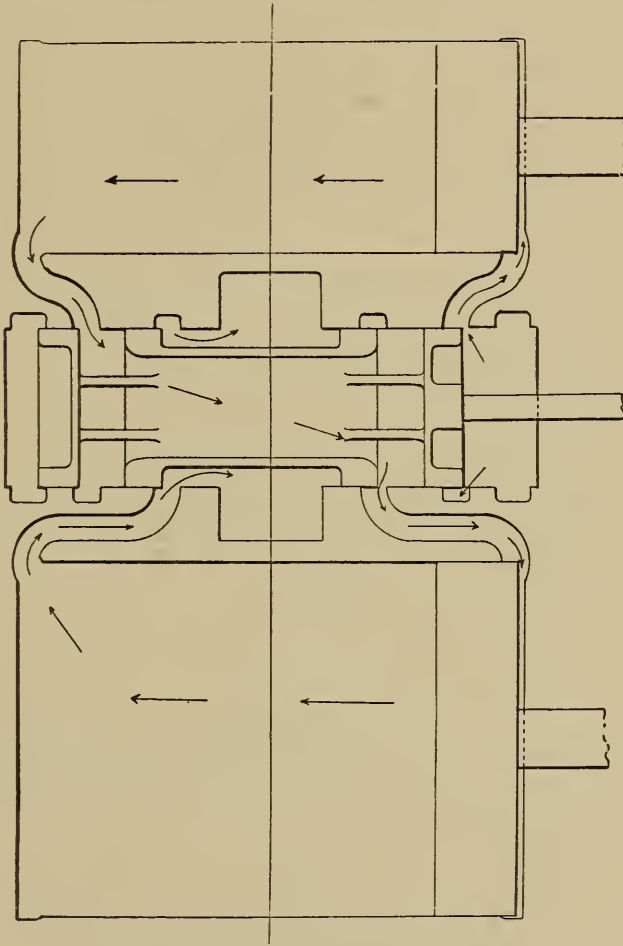
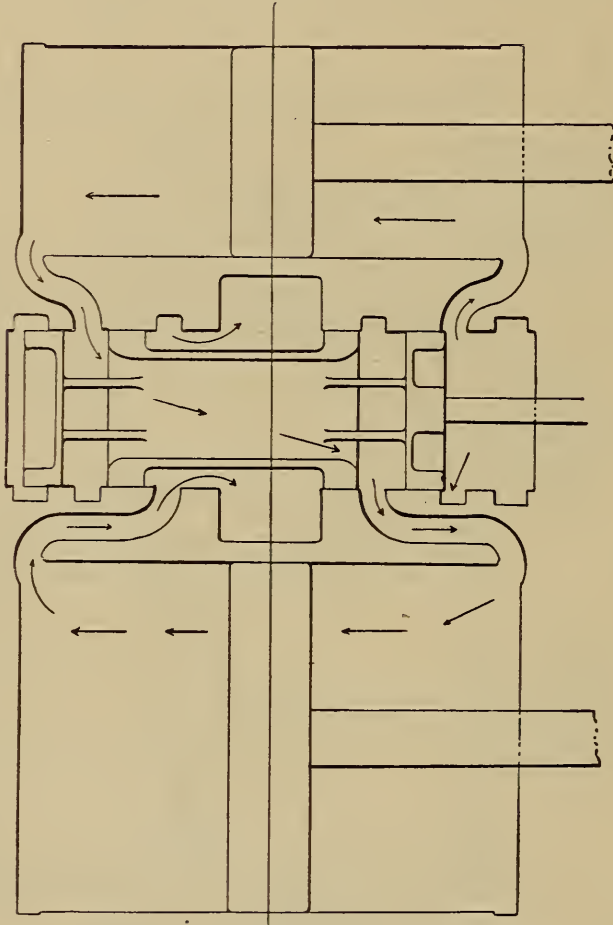
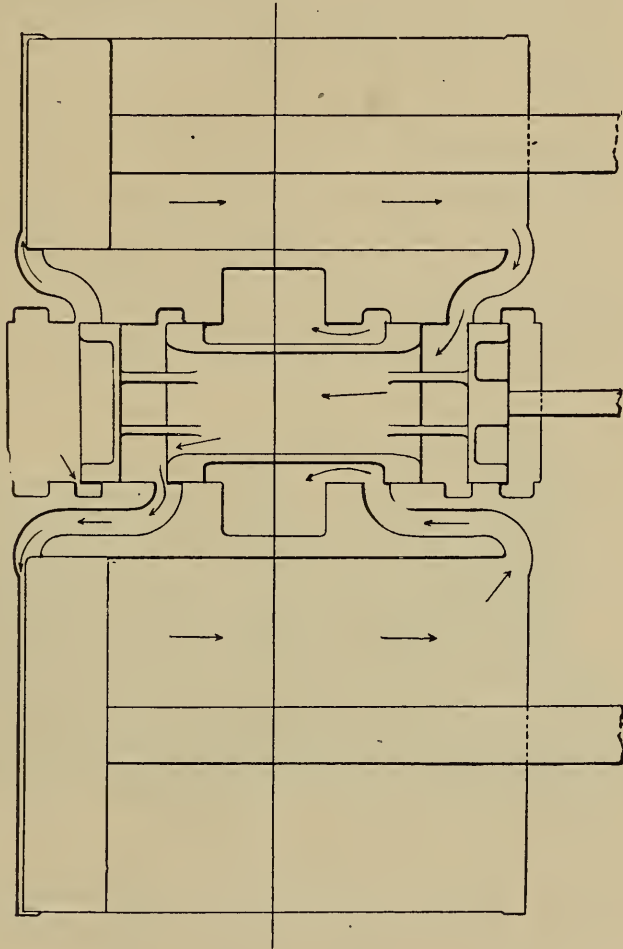

Fig. 170. Vauclain Compound.
Fig. 171. Vaucain Compound.
Fig. 172. Vaclain Compound.
A. Both pistons play together in the same direction at the same time; their position and the relative position of the valve with reference to them being shown in figures 170, 171 and 172. In figure 170, both pistons are at the crosshead end or back end of the cylinder; in figure 171, both are at mid-stroke; in figure 172, both are at front or out ends; the arrows showing the direction of the live and exhaust steam in both pistons and in the valve-chamber.